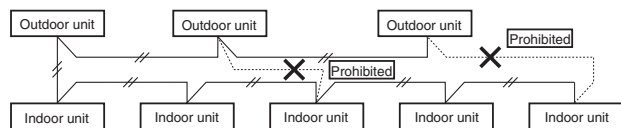

Fig. 4-1
(1) When linking outdoor units in a network, disconnect the terminal extended from the short plug from all outdoor units except any one of the outdoor units. (When shipping: In shorted condition.) For a system without link (no connection wiring between outdoor units), do not remove the short plug.
(2) Do not install the inter-unit control wiring in a way that forms a loop. (Fig. 4-1)